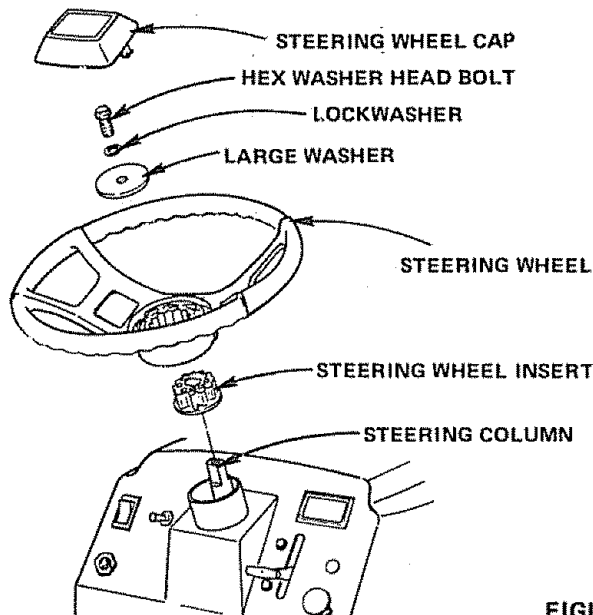

FIGURE 5
- a. Remove Hex Washer Head Bolt, Lockwasher and Large Washer from Steering Column (Fig. 5).
- c. Secure Steering Wheel to Steering Column using Hex Bolt, Lockwasher and Large Washer (Fig. 5).